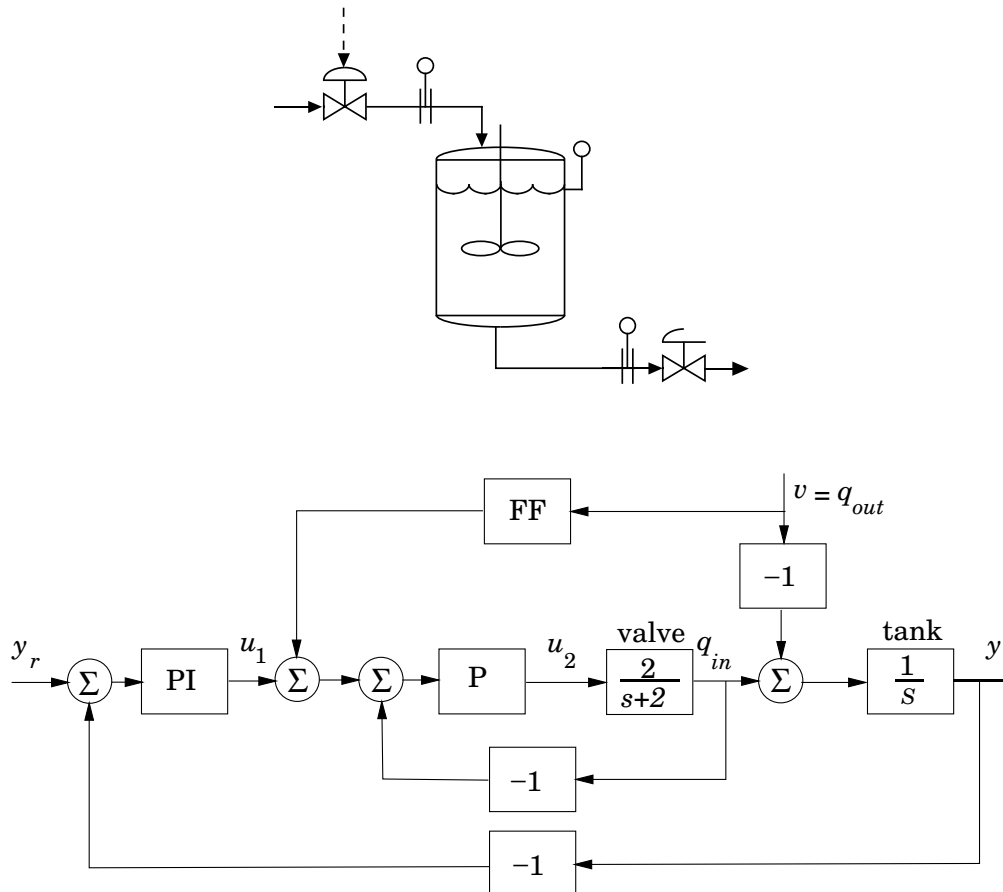

Figure 10.2 The reactor (top) and the control structure (bottom) in Problem 10.2.
10.2 In this exercise we want to control the level in the reactor shown in Figure 10.2 (top). The reactor level is controlled by the inflow, which is in its turn controlled by the valve. This is a cascade control loop. The outflow disturbance is measured and can therefore be used for feedforward control. The control system is seen in the block diagram in Figure 10.2 (bottom).
- c. Design a feedforward controller as indicated in Figure 10.2.
- d. Draw the control system in the process flow sheet in Figure 10.2 (top).